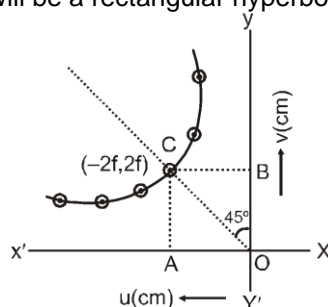

Fig. 15(C).3 Graph of u v/s v for a convex lens (rectangular hyperbola)
Suppose a convex lens L is interposed between a convex mirror M and an object needle O as shown in fig 15 (A). When the relative position of M, L and O are adjusted in such a way that there is no parallax between the object needle O and its image I, then in that position, the rays will fall normally on the convex mirror M. The rays which fall on the mirror normally should meet at the centre of curvature C of the mirror when produced (Fig.).
- (ii) Plot the points for various sets of value of u and v from the observation table. The graph will be a rectangular hyperbola as shown in fig. 15(3).3